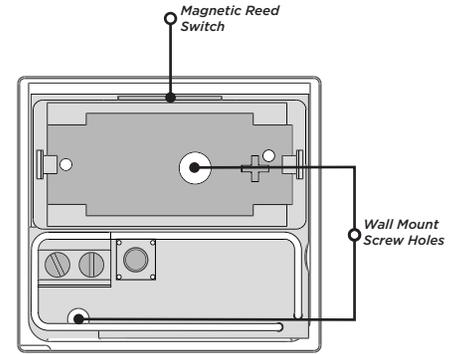

Figure 2: Transmitter Components
2. Hold the transmitter in place with the magnetic reed switch closest to where the magnet will be mounted. See Figure 2. Ensure the transmitter and the magnet will be no more than 1.3cm (0.5in) apart.